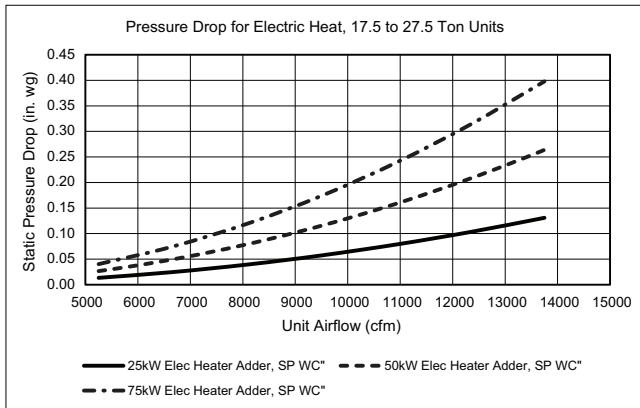

Fig. 64 — Static Pressure Drop
The standard controller is shipped from the factory configured for outdoor dry bulb changeover control. For this control mode, the outdoor temperature is compared to a selectable set point on the OAT sensor. If the outdoor air temperature is above the set point, the EconoMiSer IV will adjust the outdoor air dampers to minimum position. If the outdoor air temperature is below the set point, the position of the outdoor air dampers will be controlled to provide free cooling using outdoor air. When in this mode, the Free Cool LED next to the outdoor enthalpy set point (ABCD) potentiometer will be on. The changeover temperature set point is controlled by the dip switches on the sensor. See Fig. 62 for the switch positions corresponding to the temperature changeover values. The ABCD potentiometer on the controller should be turned fully clockwise (CW) to the “D” position. See Fig. 64 for static pressure drop.